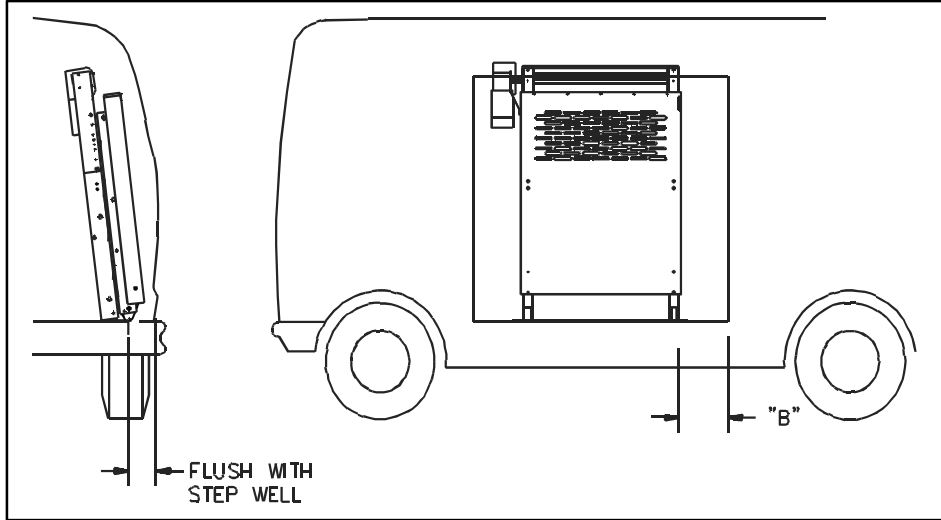

FIGURE 2-11: SIDE DOOR INSTALLATION CLEARANCES
- a. Position lift into van according to **Figures 2-11, 2-12, and Table 2-5:**